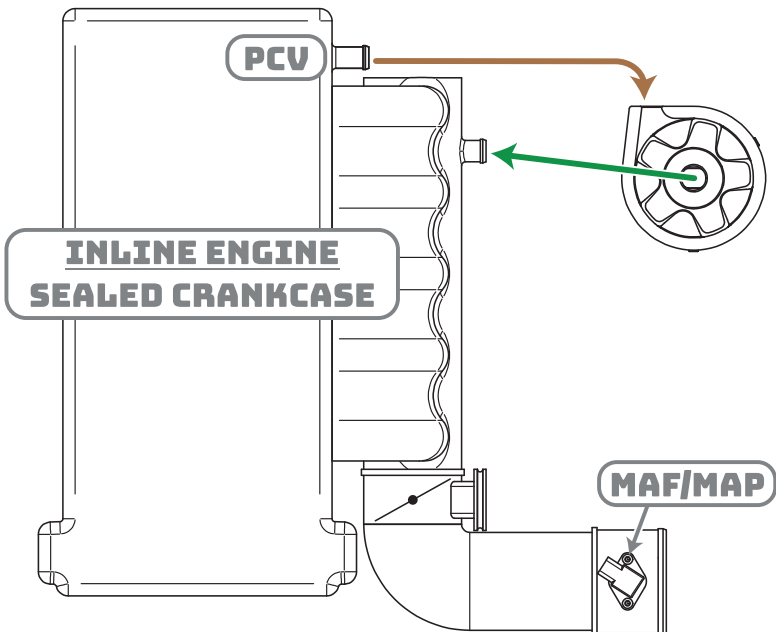

Figure 2 - N/A Inline Engine, Sealed Crankcase, PCV Filtered
3. Install the catch can to your vehicle based on the plumbing configurations presented in Figure 2 through Figure 13.